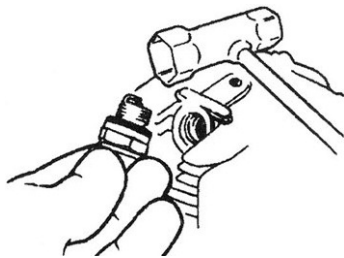

Figure 30
1. Disconnect the spark plug lead, and then use the spark plug wrench to remove the spark lug (turn counterclockwise to remove). See Figure 30.